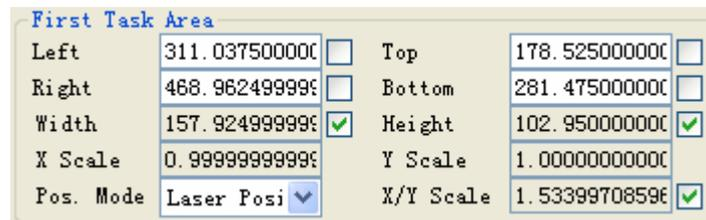

Figure 6-13 Set First Task Area
- The parameters after setting the first piece area likes the Figure 6-13 shows: